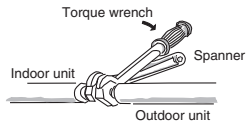

Fig. 7-6
- (2) Tightly connect the indoor-side refrigerant tubing extended from the wall with the outdoor-side tubing.
- (3) To fasten the flare nuts, apply specified torque.
- When removing the flare nuts from the tubing connections, or when tightening them after connecting the tubing, be sure to use 2 monkey wrenches or spanners. (Fig. 7-6) If the flare nuts are over-tightened, the flare may be damaged, which could result in refrigerant leakage and cause injury or asphyxiation to room occupants.